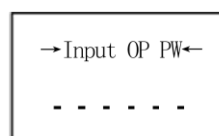

Fig. 7 Password input interface
- 1) In standby mode of the host, press Menu key (enter the password), and the LCD will display as shown in Figure 7. The host waits for password input and identification. After entering the 6-bit password, press